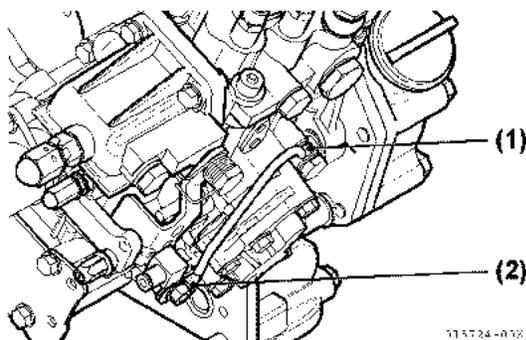

Figure 6-30
13. Disconnect the lubricating oil line (Figure 6-30, (1)) and the clamp (Figure 6-30, (2)) from the pump. **NOTICE:** Take care not to damage or bend the oil line. For 4JH5E and 3JH5E models, it may be preferable to remove the complete oil line assembly from the engine before proceeding.